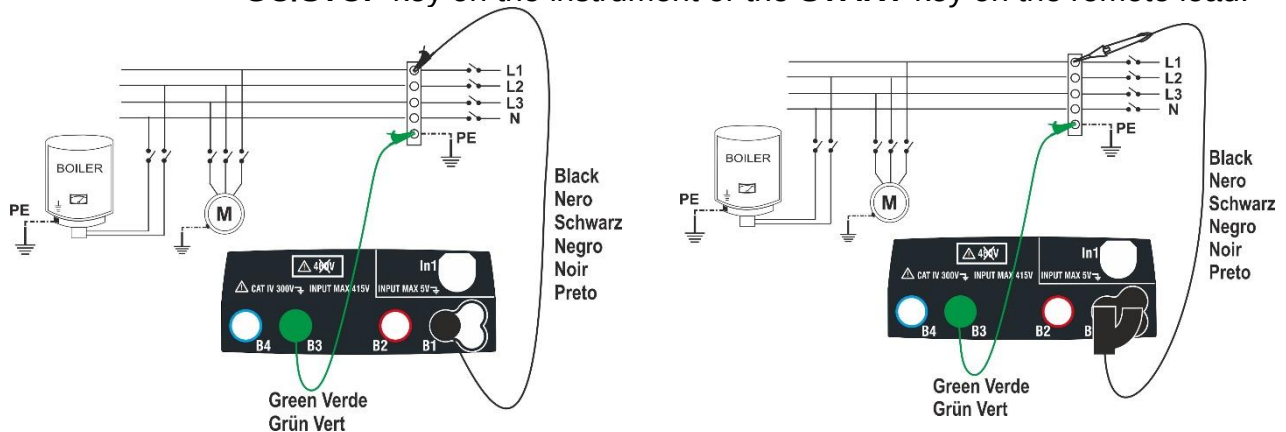
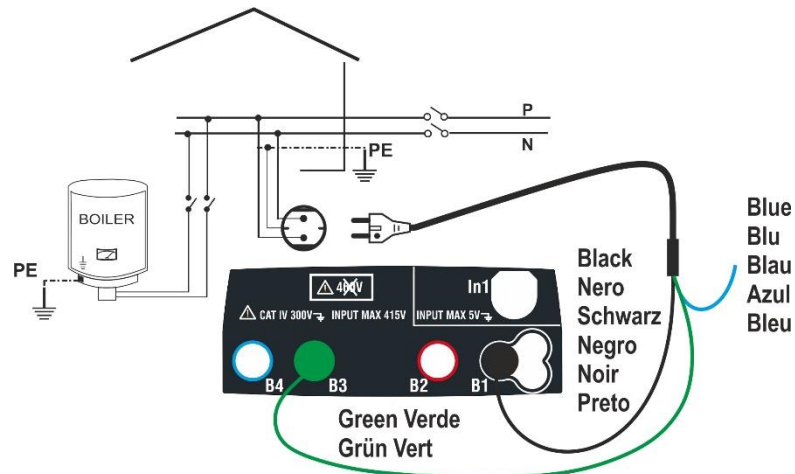

Fig. 8: Insulation test between L-PE by means of single cables and remote lead
Fig. 9: Insulation test between L-PE by means of shuko plug
- Connect the alligator clips and/or test leads and/or remote lead to the ends of the conductors to be tested as in Fig. 8 and Fig. 9.